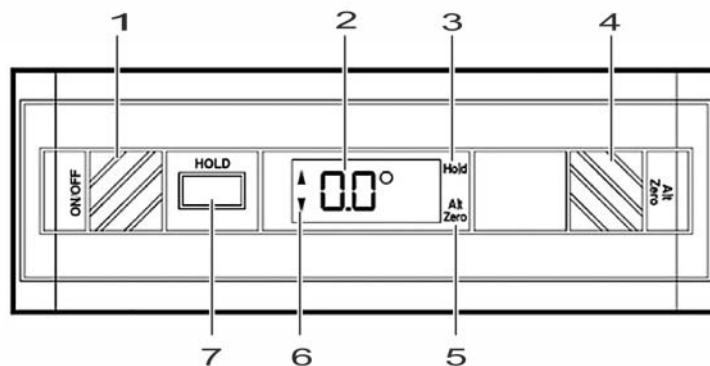

Figure 64
- ⇒ Figure 64 -1- – ON/OFF button
- ⇒ Figure 64 -2- – Display (LCD)
- ⇒ Figure 64 -3- – HOLD indicator
- ⇒ Figure 64 -4- – ALT ZERO button (alternative reference)
- ⇒ Figure 64 -5- – ALT ZERO indicator
- ⇒ Figure 64 -6- – Indicator arrows